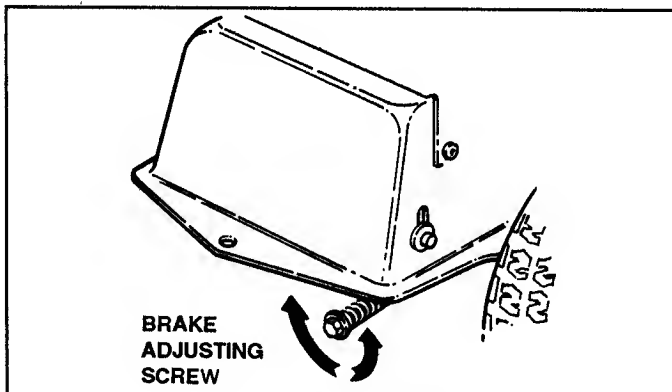

FIGURE 37
- Turn the brake adjusting screw one-half turn to the right (clockwise) to tighten brake or to the left (counterclockwise) to loosen. See Figure 37.